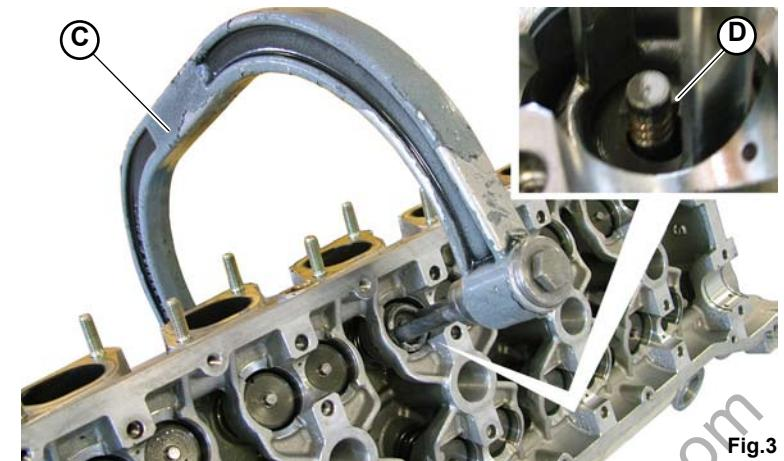
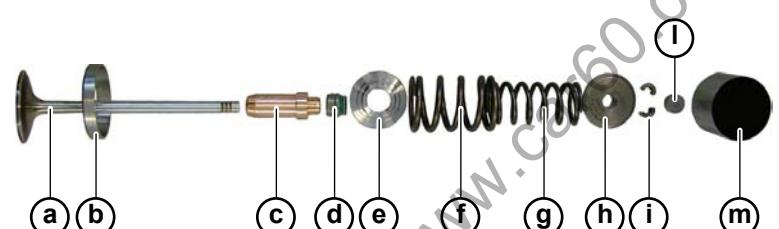

Fig.3
Fig.4
- Using the special tool (C-Fig.3), press the spacer ring to extract the 2 cotters (D-Fig.3).
- Remove the cotters (D-Fig.3), then the tool, followed by the entire valve unit (Fig.4):
5. Position the spacers (C-Fig.3) above the upper spacer rings.
6. Remove the tappets (D-Fig.3) from their housings.